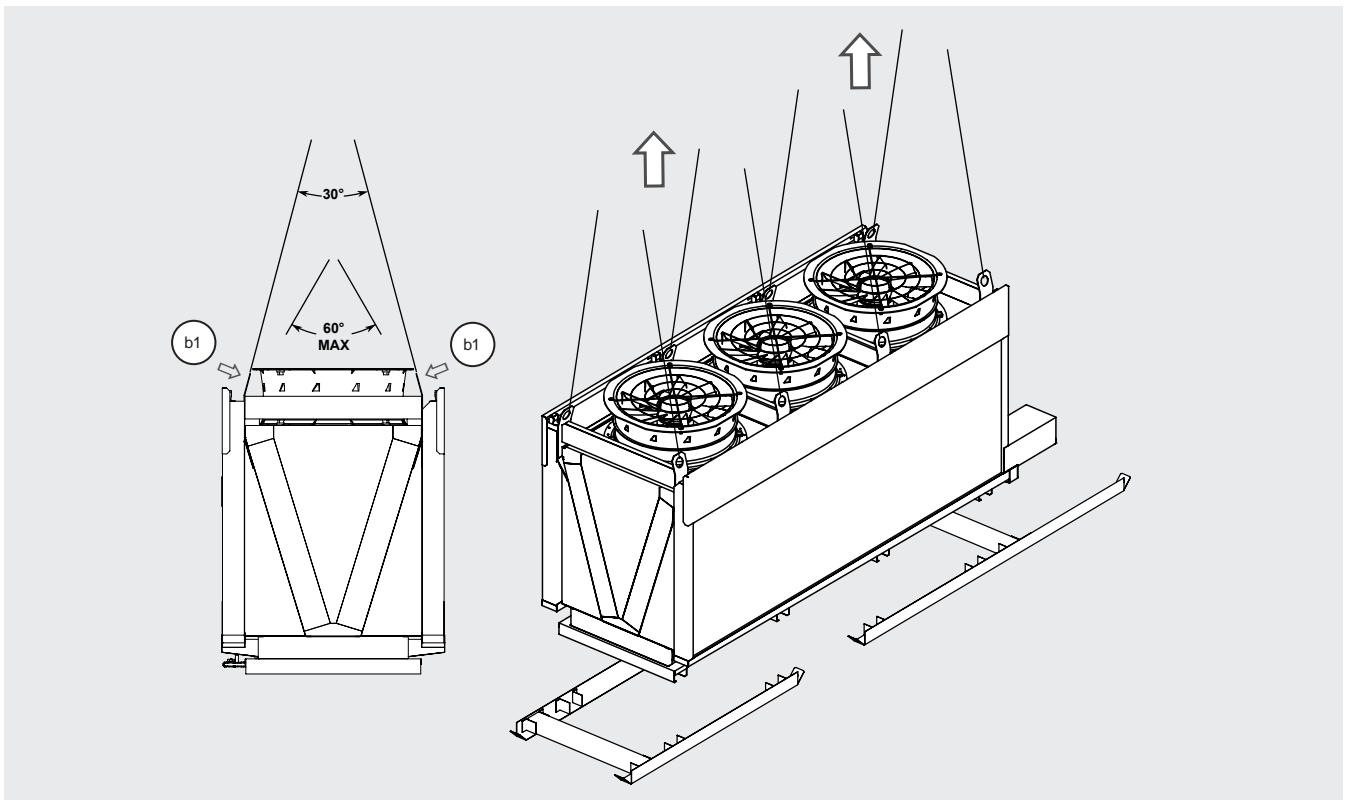

Figure 8
5.12 Attach the crane to lifting points (b1), lift the model and place it in its final location. Use all lifting points, see Figure 8.